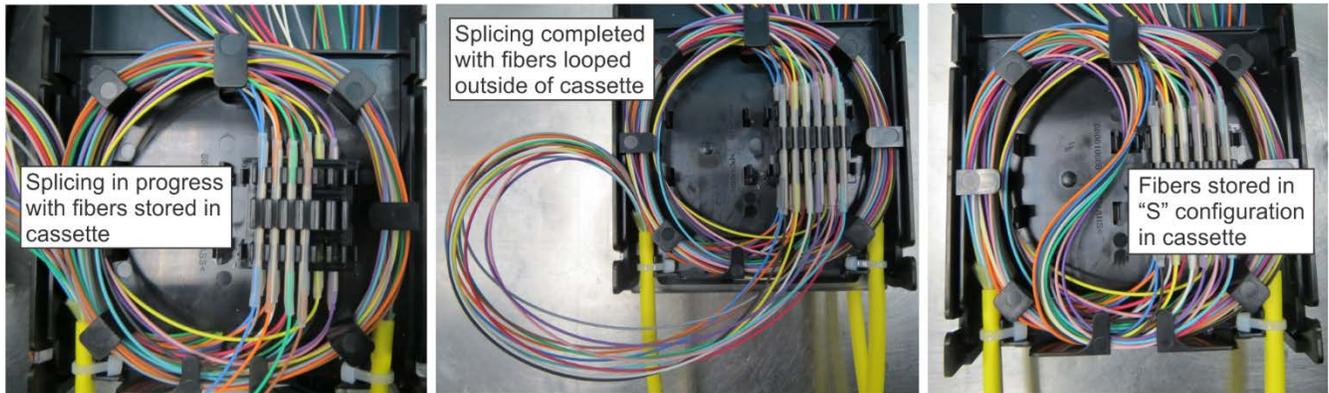

Figure 8. Splice and Route 2nd Cable
3. Repeat operation for remaining fibers in bundle no. 2 (Figure 8).
4. When ports 13-24 have been done, route spliced fibers from incoming cable into cassette in an “S” configuration as shown above (Figure 8).